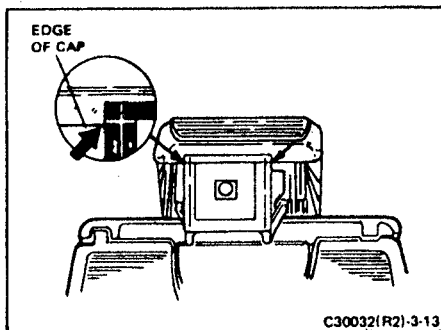

FIGURE 3-13 ALIGNING THE EXIT PUPIL GAGE
- (3) The mounting rails for the gage must be flush with the eyelens frame. Check by holding the bottom of the eyelens frame with the thumb and apply slight pressure on the upper front of the gage with the right index finger. The gage should be secure.
- c. Align the bottom of the viewfinder cap with the horizontal white line on the front of the gage. Center the eyelens supports with the vertical white lines (Figure 3-13).